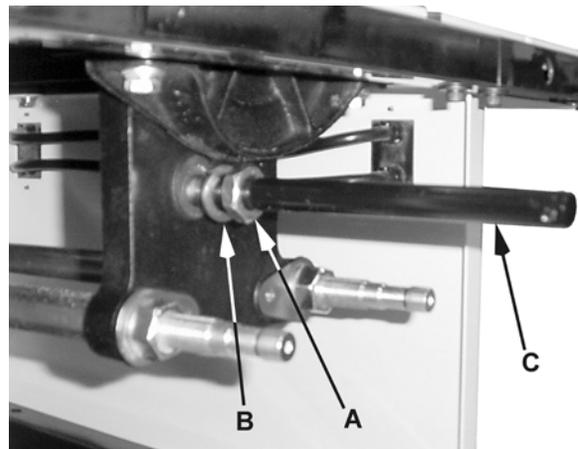

Figure 13
1. Thread an M16 hex nut (A, Fig. 13) completely onto the 5/8" x 8" splitter rod (C, Fig. 13). Place a lock washer (B) on the splitter rod. Thread the splitter rod into the rear trunnion and lock in place by tightening the hex nut.